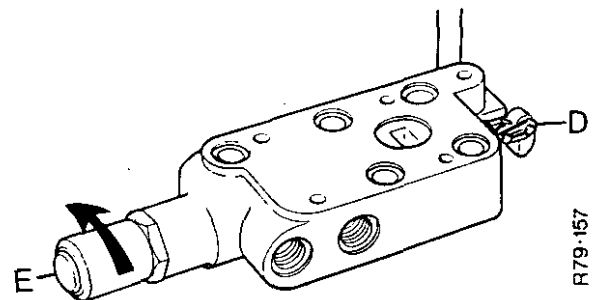

FIGURE 47. DISASSEMBLY OF THE LIVE TAKE-OFF VALVE
1. Remove the spring link which holds the spool to the operating lever (see Figure 47, tractors without cab).